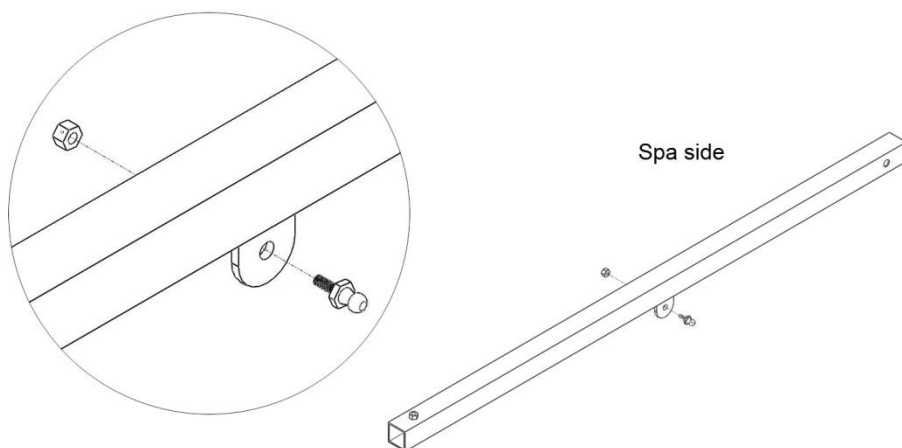

Figure 2
2. Attach the Ball Stud (cvB) to the Pivot Arm (cvCC) with the Lock Nut (cvF); repeat this for each side of the spa. Ensure the round part of the Ball Stud (cvB) is facing away from the spa. See Fig 2.